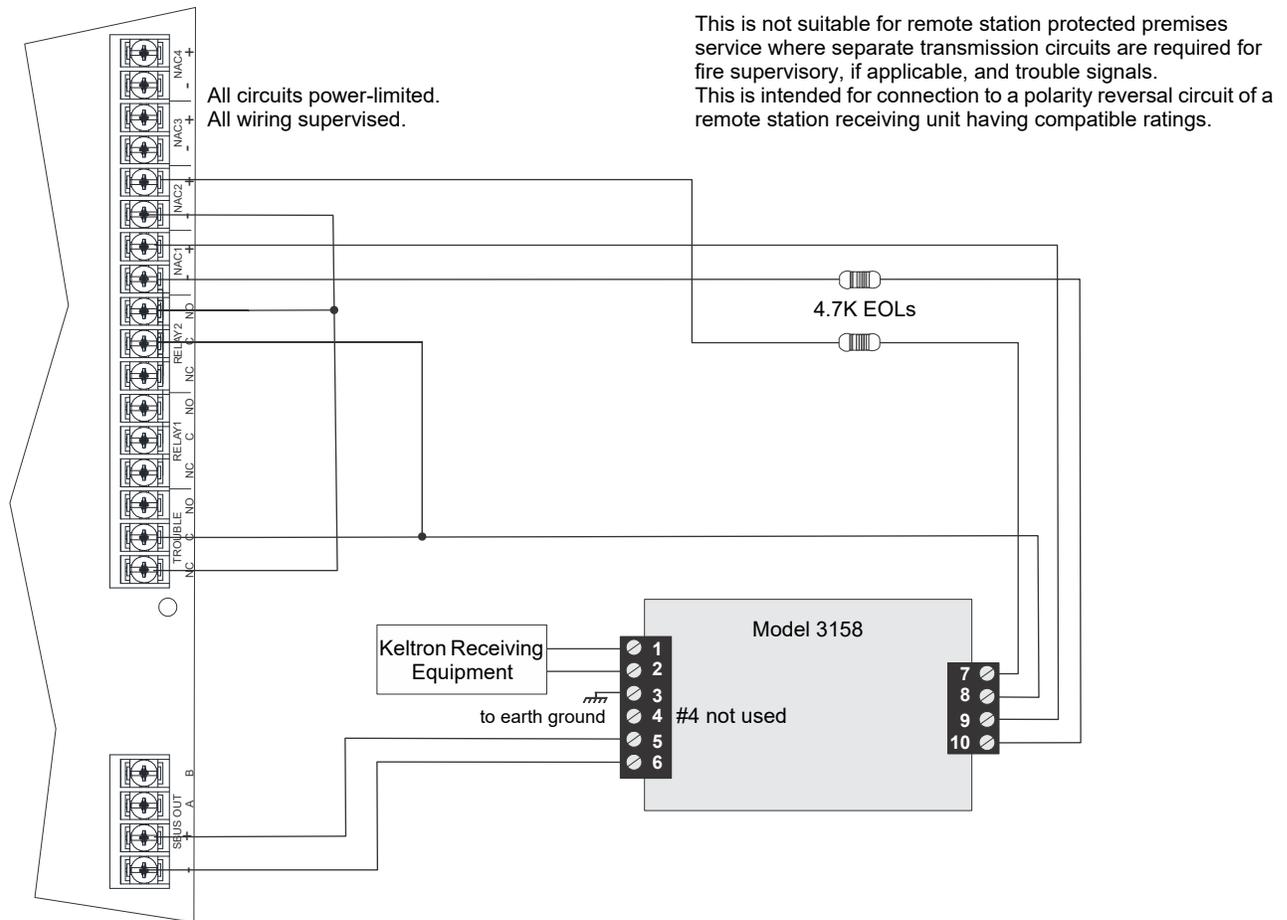

Figure 4.41 Keltron 3158 Connection to Control Panel
1. Wire the 3158 to the control panel as shown in the connection list and Figure 4.41.